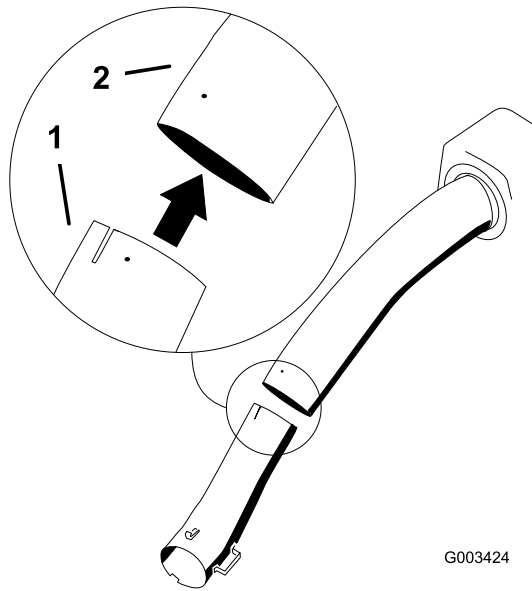

Figure 25
- Install the lower tube into the upper tube (Figure 25).